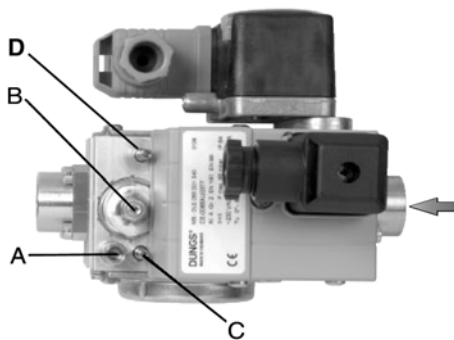

Fig. 8 -DUNGS MBC 65-DLE
- slacken screw A (Fig. 8) in measuring nozzle. Connect pressure gauge.
- Set to the minimum the pressure regulator by turning adjustment screw B (Fig. 8) anticlockwise .
- Adjust the flame during the startup phase by means of the bypass C (see Fig. 8 n. 10). Turning clockwise the gas flow decreases, turning counterclockwise the gas flow increases. Do not exceed in the start flow, otherwise the stabiliser B (Fig. 8) will be inefficacious.
Act on the pressure regulator to achieve the desired gas flow rate, by means of the Adjustment screw B (Fig. 8): turn the screw clockwise to increase the flow rate, turn counter-clockwise to decrease it.
The adjustment screw D for the main flow restrictor is completely open (factory setting): do not change its position. Once the adjustments are accomplished, close screw A (Fig. 8) in the measuring nozzle.